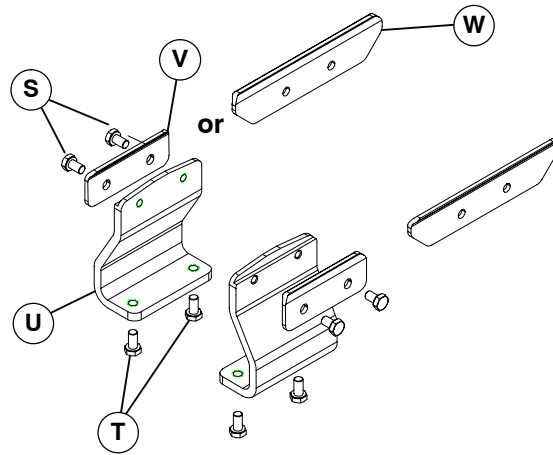

Figure 9
**NOTE:** Conveyor may be mounted using mounting brackets as shown in Figures 9 and 10 or directly to support stands. For direct support stand mounting, see stand manual.
1. Typical mounting bracket components (Figure 9).
2. Attach clamp plate (V or W of Figure 9) to stand/conveyor ear mount bracket (U) with two screws (S). Do not tighten screws.